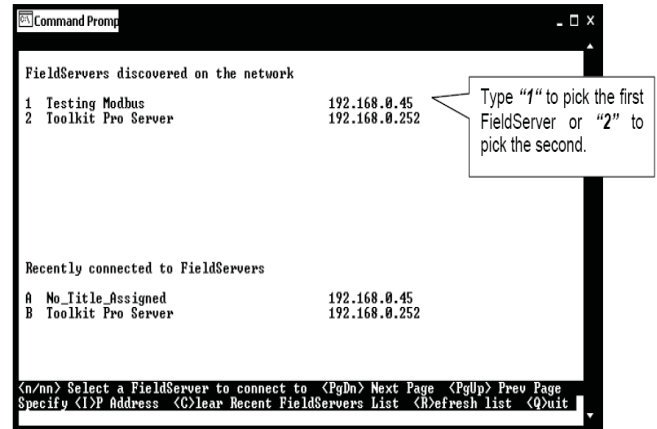

Figure 10: RUINET PT-Link II Selection Menu
5.) On subsequent connections, a list of PT-Link II's that have been recently connected may appear under the message "Recently connected to FieldServers." Select the required PT-Link II by typing the Number or Letter in the left hand column. (**Figure 10**).